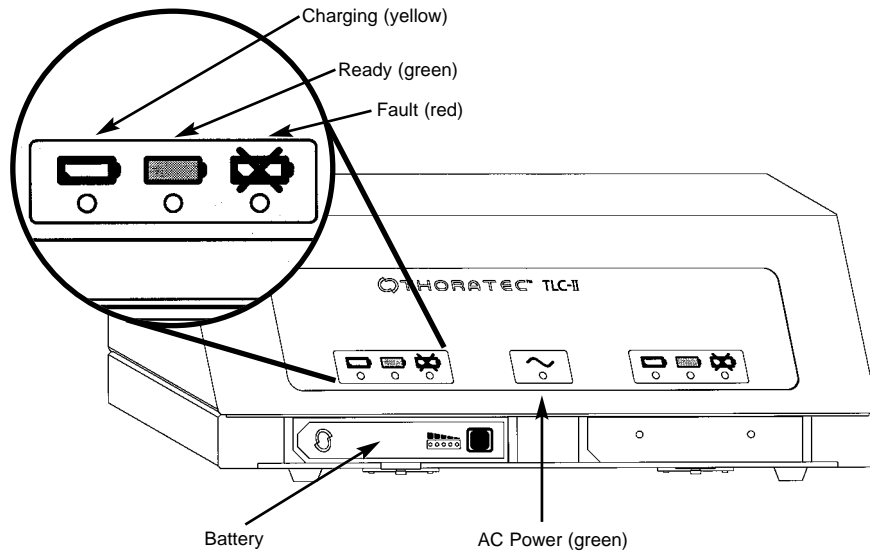

Figure 16 Battery Charger
- The battery charger (**Figure 16** following page) has three (3) lights for each battery: